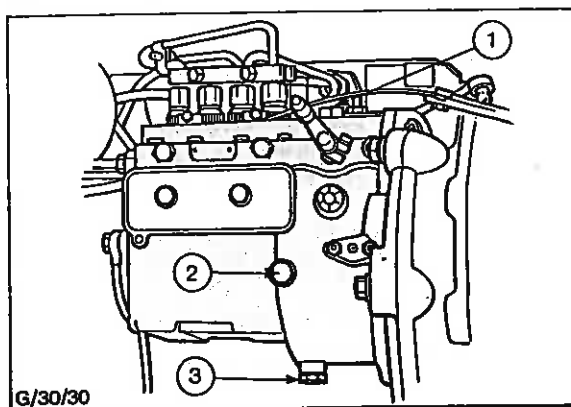

Fig. 36 - Injection Pump Oil Plugs (Class 'A' and Combine Harvester Governing Only)
14. In the case of Class 'A' or combine harvester governed pumps, remove the oil filler and level plugs and top up with new engine oil as necessary. Refit and tighten plugs - see Fig. 36.